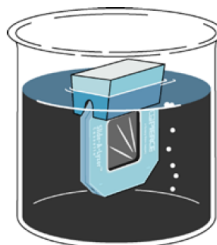
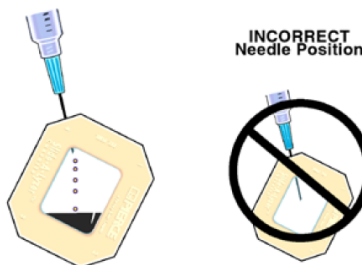

Figure 1 Hydrate the membrane.
Figure 2 Add sample.
2. Immerse the cassette in dialysis buffer (Figure 1). Hydrate the 3.5–20K cassettes for 1–2 minutes and the 2K cassettes for at least 2 minutes.
3. Inject the sample slowly. Withdraw air by pulling up on the syringe piston (Figure 2).
Note: For cassettes requiring hydration, see “Product description” on page 1 and Figure 1. Hydration increases membrane flexibility and enables it to adjust more readily to the positive pressure created as the sample is added (Figure 2) and to the vacuum created when air is removed.
IMPORTANT! Penetrate gaskets to a minimal extent with the needle's beveled portion. Overextending the needle into the cavity may puncture the membrane. Figure 2 and Figure 4 show the proper method for filling the cassette. If the sample has a high protein concentration (e.g., 10 mg/mL), fill the cassette slowly to avoid foaming.